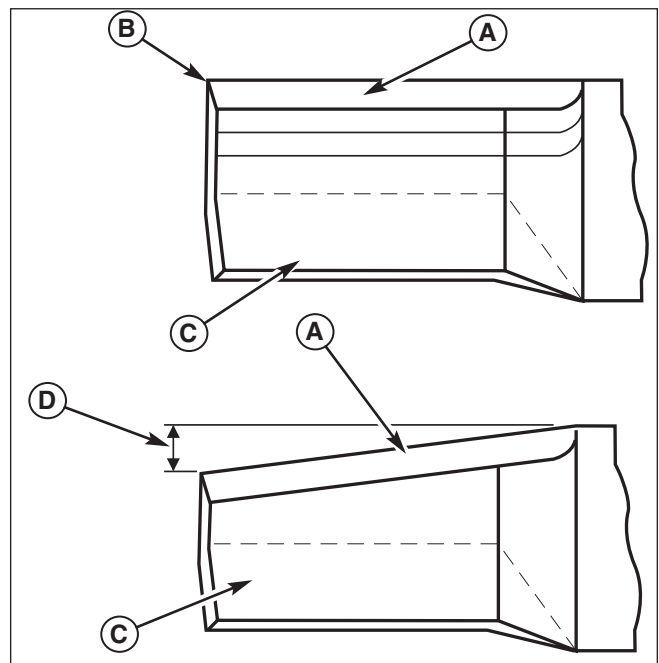

Figure 28. inspecting the Mower Blade Tips
2. Inspect the mower blade (Figures 28 & 29). **Discard the mower blade if it has any of the below conditions.**